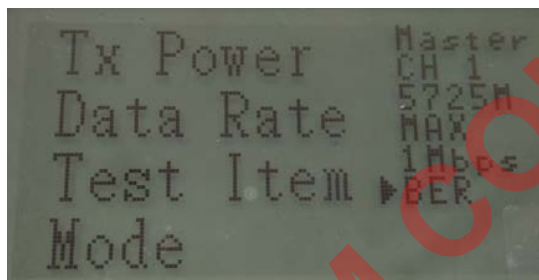

Fig 32
2. Press '↓' or '↑' button to select BER and press enter as shown in Fig 32.